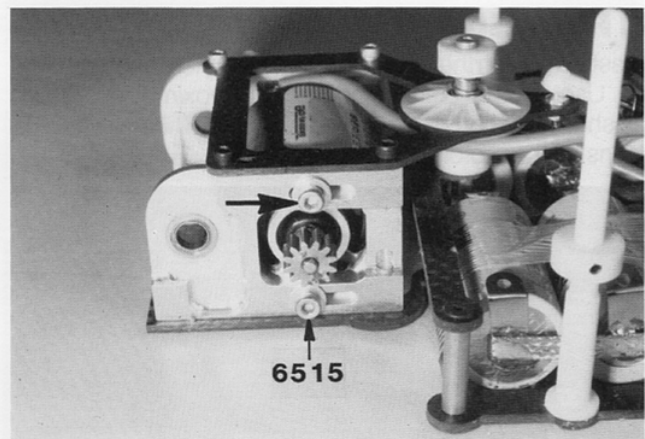

Fig. 56
□ **Fig. 56**—Install a washer on each motor mount screw and install the two screws loosely. They'll have to be adjusted later.